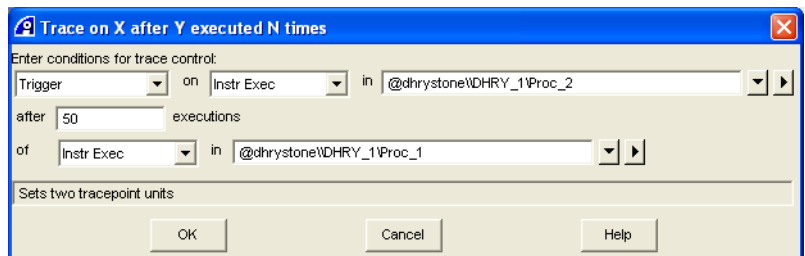

Figure 10-94 Completed conditional tracepoint dialog box
- d. Click **Select** to close the Function List dialog box. The Trace on X after Y executed N times dialog box is now complete. Figure 10-94 shows an example: